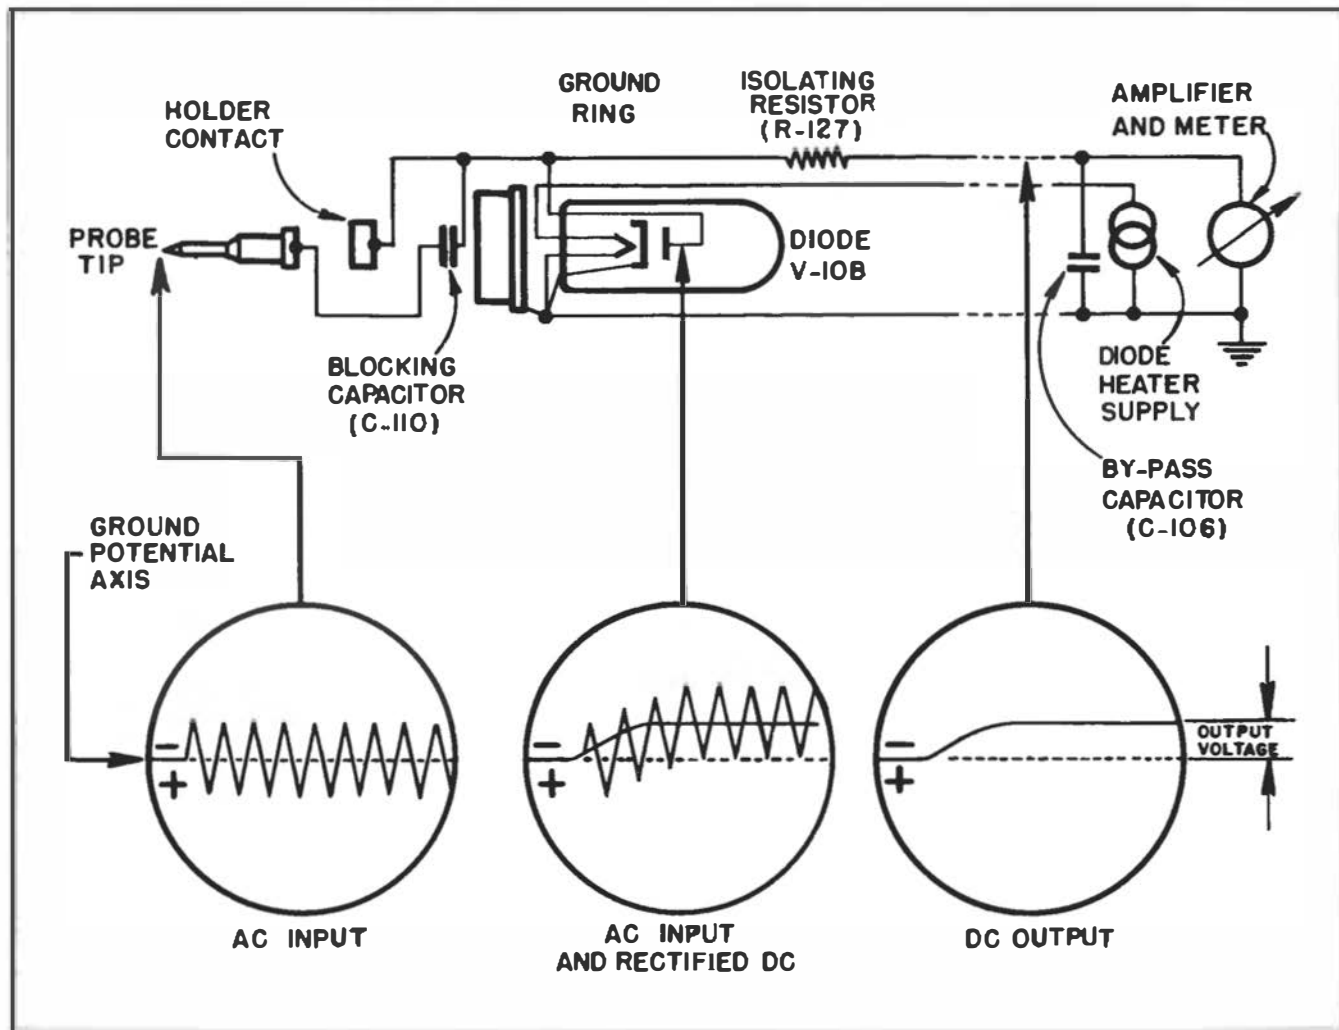

Figure 3-5. A-C Probe Section, Rectifier Action
g. A-C PROBE.—(See figure 3-5.) The A-C Probe contains a diode type of rectifier tube for converting a-c voltages to d-c. It is designed specifically to measure a-c voltages at the highest possible frequency by minimizing the inherent distributed inductance and capacitance between the rectifier tube elements and the point of measurement.
a. CONSTRUCTION.—The a-c probe consists of a diode rectifier tube (V-108, type CK-606-BX), an isolating resistor (R-127, five megohms) and a blocking capacitor (C-110, 500 mmf), cased in a cylindrical bakelite case similar in appearance to a standard test probe but larger in diameter. In addition to the conventional test probe tip prod the contact end carries a circumferential ring for making a short ground connection when measuring high-frequency a-c voltages. The general construction and the electrical circuit is shown in figure 3-5.
b. DIODE ACTION.—The diode rectifier tube is shunt-connected across the input circuit with the cathode connected to ground and the plate connected to the ungrounded input lead. It thus rectifies the a-c input by passing the positive half-cycles of a-c to ground. A few half cycles of positive conduction to ground then will build up a negative potential at the plate as described by the oscilloscope illustrations in figure 3-5. The blocking capacitor will then in a short time build up a charge above ground almost equal to the positive half-cycle peaks of the a-c wave. This d-c voltage is delivered through the isolating resistor to the instrument proper for indication. After the a-c input has been applied for several cycles the diode conducts only a sufficient portion of each positive peak to supply the small d-c current demanded by the range attenuator in the instrument.